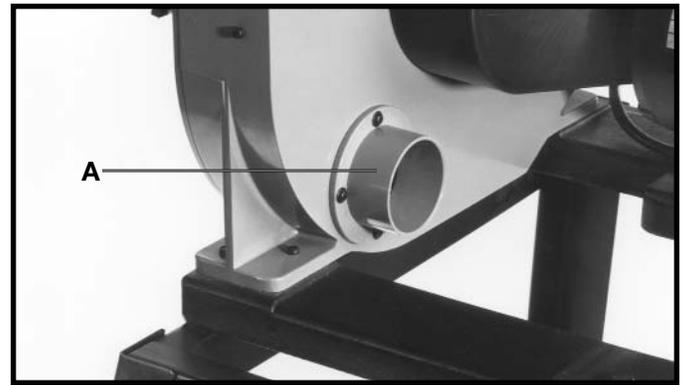

Fig. 33
A dust chute (A) Fig. 33, is provided which enables you to connect your band saw to a standard shop vacuum or dust collector. The opening of the dust chute is 2-1/4" I.D.